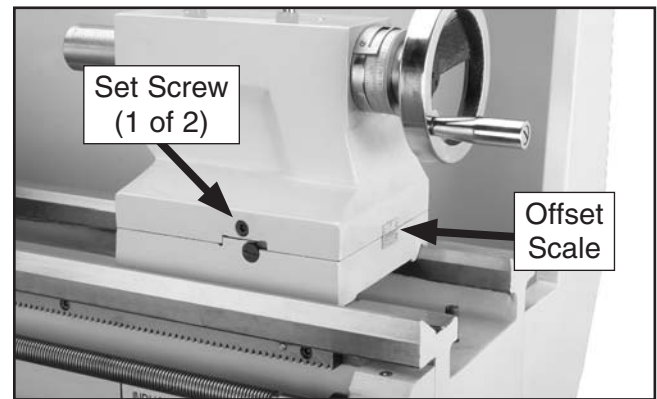

Figure 38. Tailstock offset controls.
1. Alternately loosen and tighten the set screws on either side of the tailstock until the desired offset is indicated on the offset scale (see **Figure 38**).